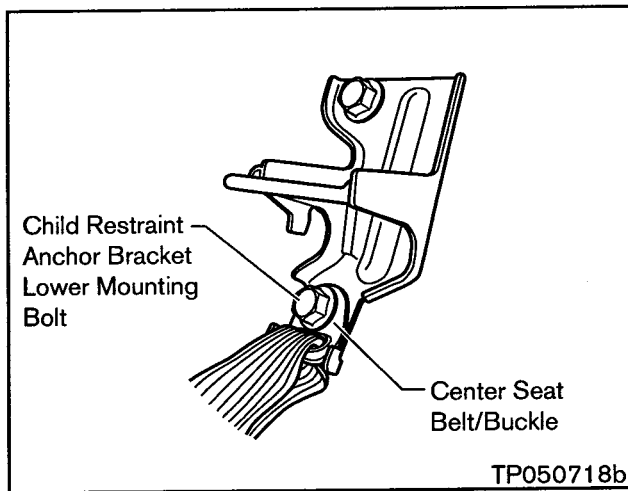
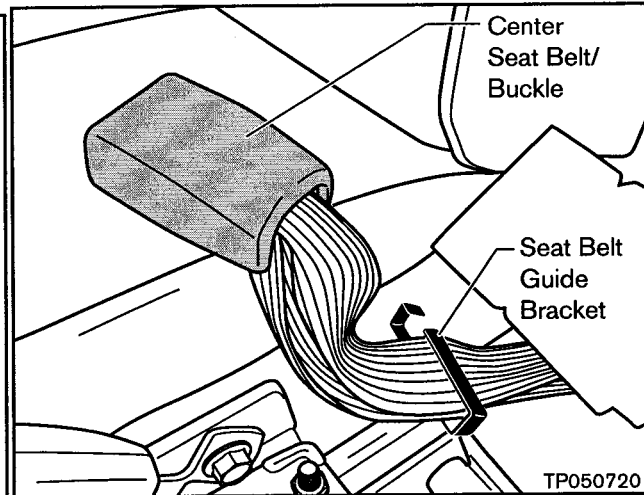

Figure 10a
Figure 10b
- Make sure the center Seat Belt/Buckle is re-attached with the Child Restraint Anchor Bracket Lower Mounting Bolt (see Figure 10a). Also, make sure the Seat Belt is routed through the Seat Belt Guide Bracket (see Figure 10b).